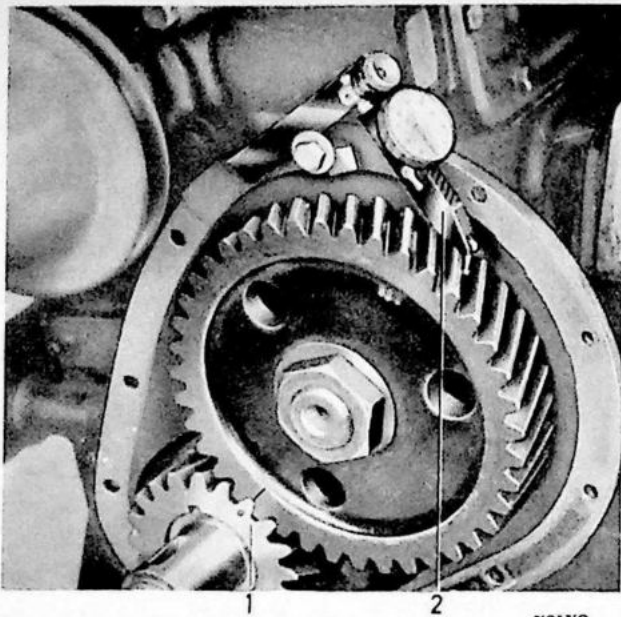

Fig. 24. Measuring backlash.
4. Remove the timing gear casing. Check the gear markings and backlash, see Fig. 24. See the specifications for the values concerned.